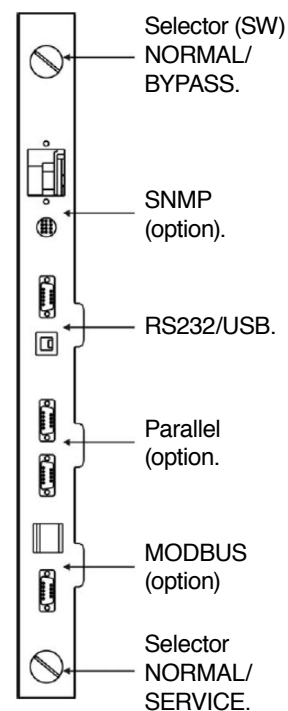

Fig. 31. Interface from 100 to 160 kVA models.
- UPS has the following serial interfaces to make an external communication of the operating status and parameters (see figures 31, 32 and 33):